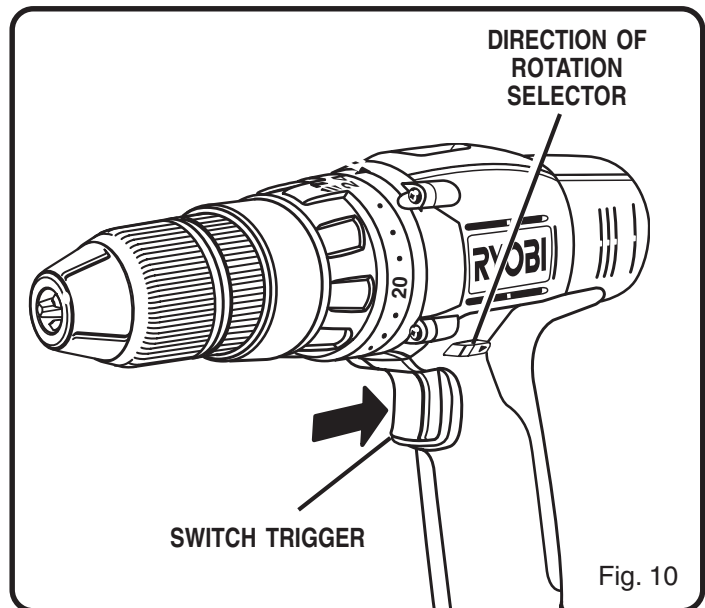

Fig. 10
See Figure 10.
- Place the direction of rotation selector in center position. See Figure 10.